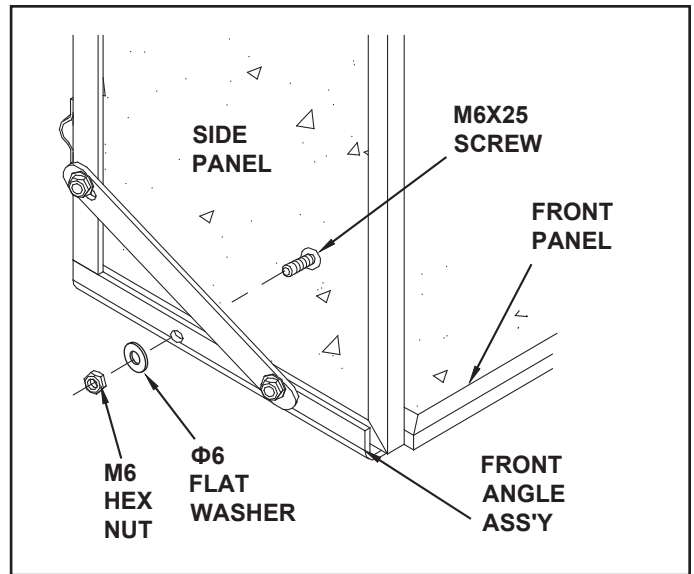

FIGURE 8
- Assemble one M6 x 25 screw through bottom hole in side panel and front angle assembly. Secure with a flat washer and hex nut, **making only finger tight at this time.** Repeat for the other side panel. See figure 8.